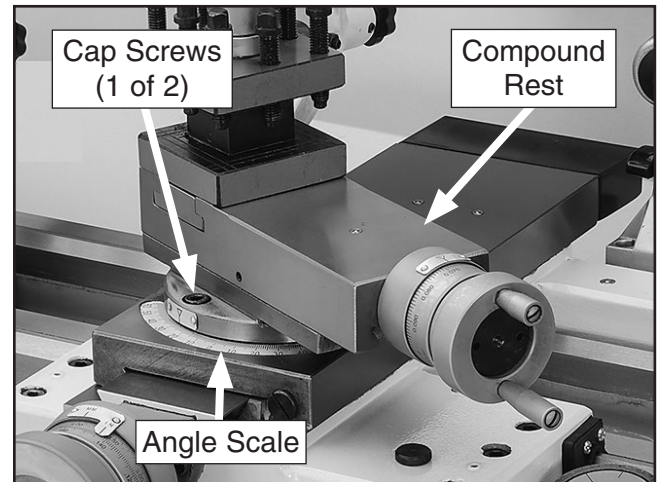

Figure 51. Compound rest angle adjustments.
1. Loosen two cap screws at base of compound rest (1 of 2 shown in **Figure 51**).
Use this handwheel to move the cutting tool linearly along the set angle of the compound rest. Set the compound rest angle by hand-rotating it and securing it with the two cap screws (see **Figure 51** on **Page 42**). The compound rest has an indirect-read graduated dial, which shows the actual distance the tool moves.